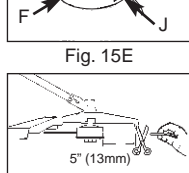

Fig. 15F
9. Once the spool is in place, apply pressure on the spool compressing the spring. Pull each end of the line (B) sharply to unlock the line from the slots (Fig. 15F).